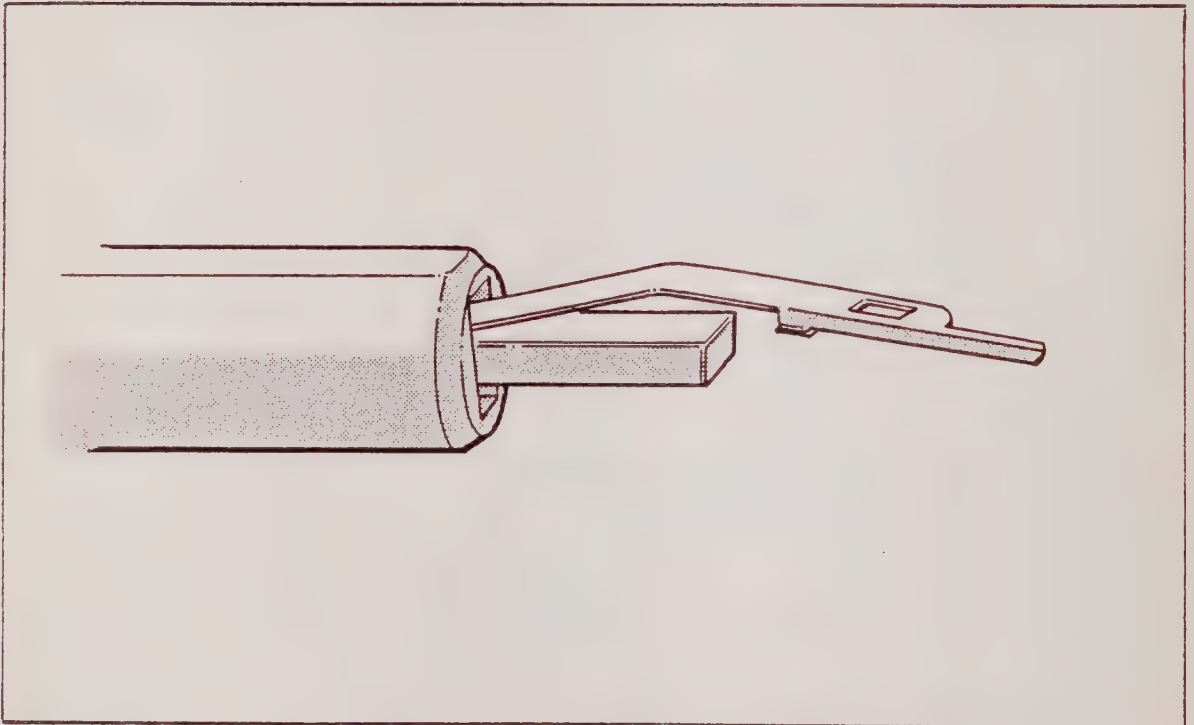
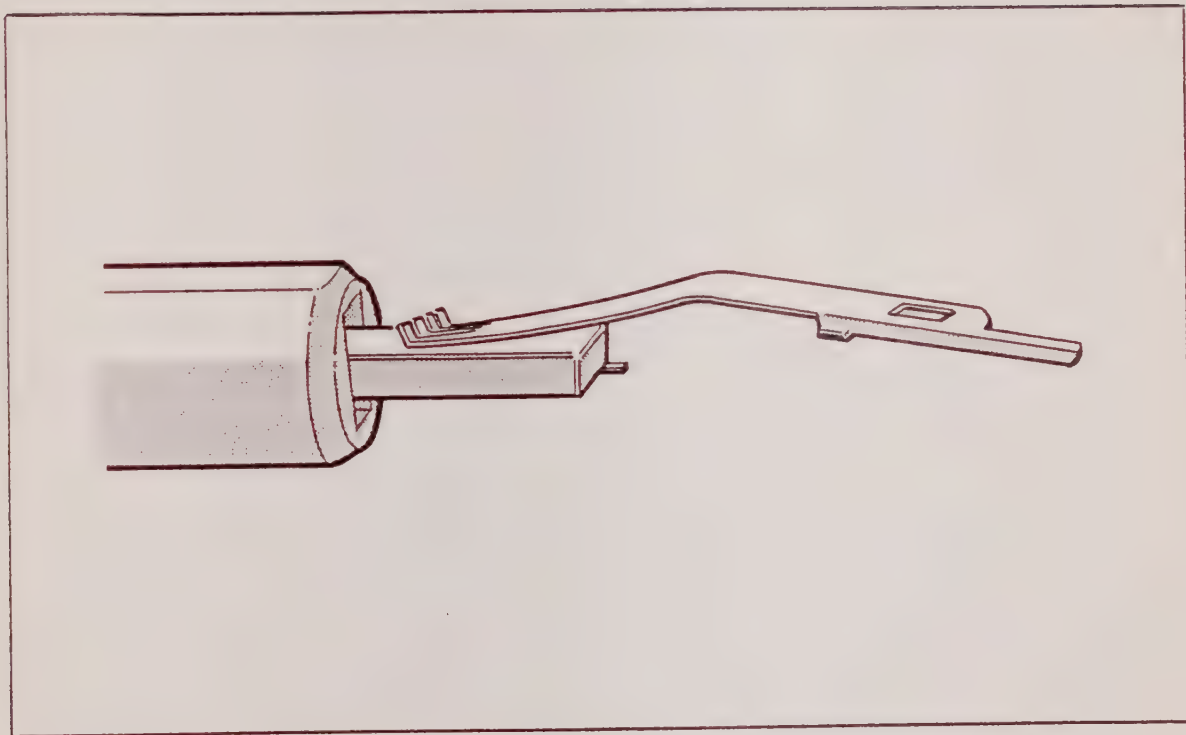

Figure 5-3. Placing The Solid Contact In The Insertion Tool
Figure 5-4. Inserting The Split Contact In The Insertion Tool
9. Insert the solid contact (P/N 373-30052-2) in the insertion tool with the bend to the outside and the solder end up (see figure 5-3). Insert the split contact (P/N 373-30053-2) with the split end in first (see figure 5-4).